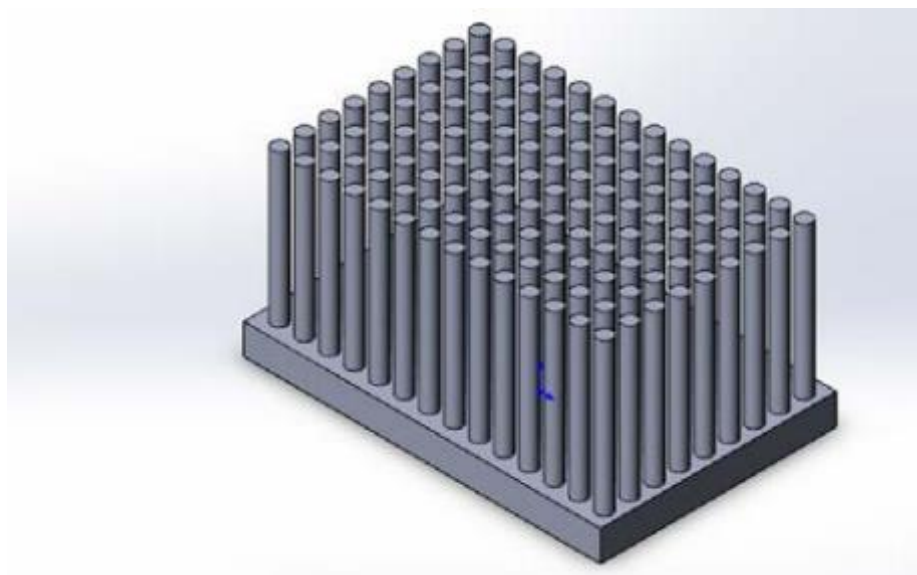

Figure 8.5 – Created radiator model
8.2.6 Next, select the "Pull boss" command, click on the array, pull the radiator fins up 25 mm (figure 8.5).